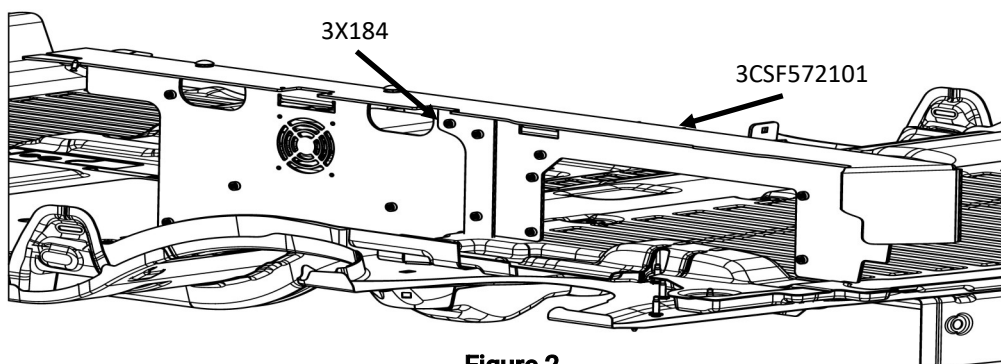

Figure 2
1. Locate Drivers Side Panel [3CSF572101], Passenger Side Panel [3CSF572102] and (2) [3X184] 1/4"-20x3/4" Button Head Socket Cap Screws.
2. Mount Drivers Side Panel Assembly to brackets as shown in Figure 2 with (1) 1/4"-20x3/4" button head screw. The rest of the screws will be installed later. Screws should be mounted with the head facing the interior. Leave screws loose to allow panel alignment, they will be tightened in a later step.